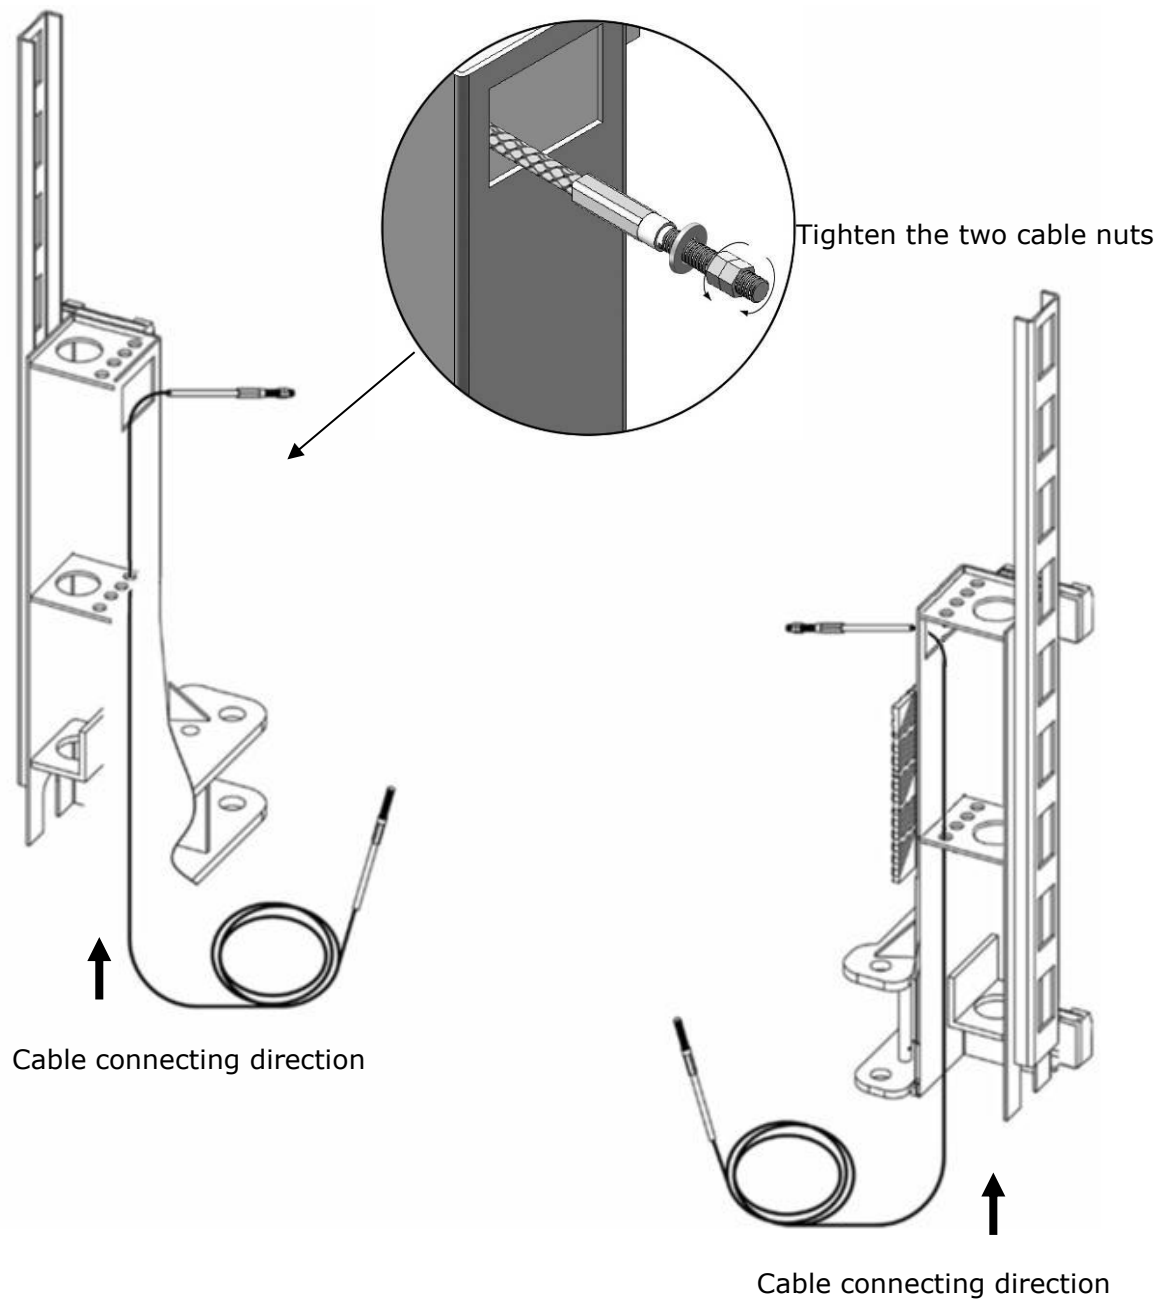

Fig.32
1.1 Remove the plastic cover of carriage, cable across from the bottom of the carriage and pull it out from the hole of carriage, then tighten two cable nuts. **(See Fig. 32)**